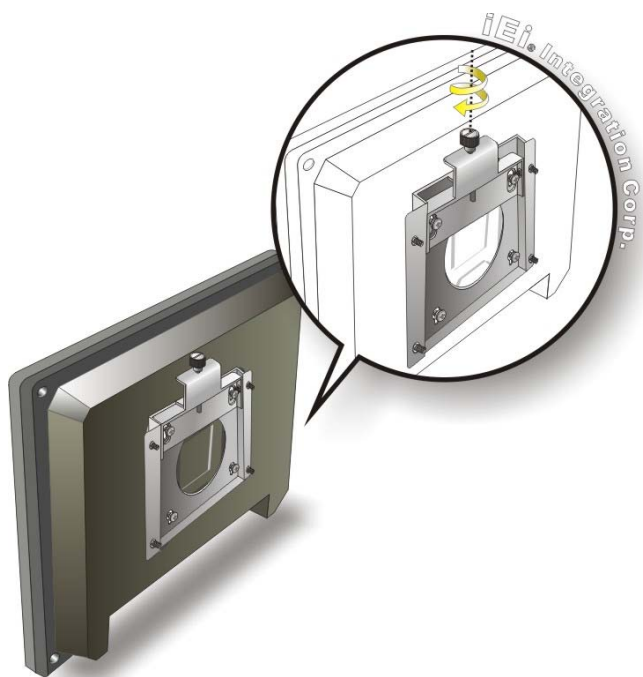

Figure 3-18: Secure the Panel PC
Step 9: Secure the panel PC by fastening the retention screw of the wall-mounting bracket. (**Figure 3-18**).